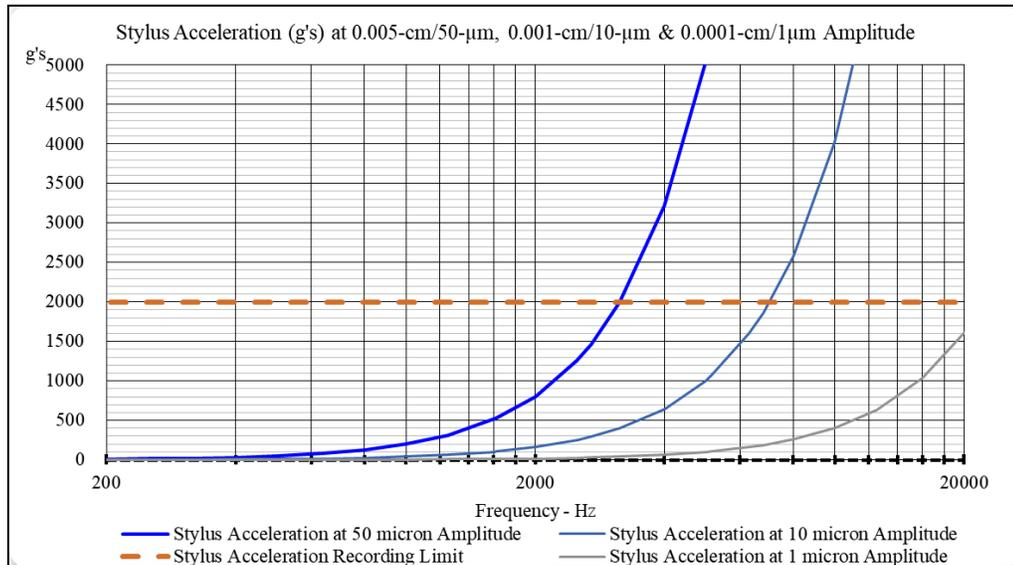
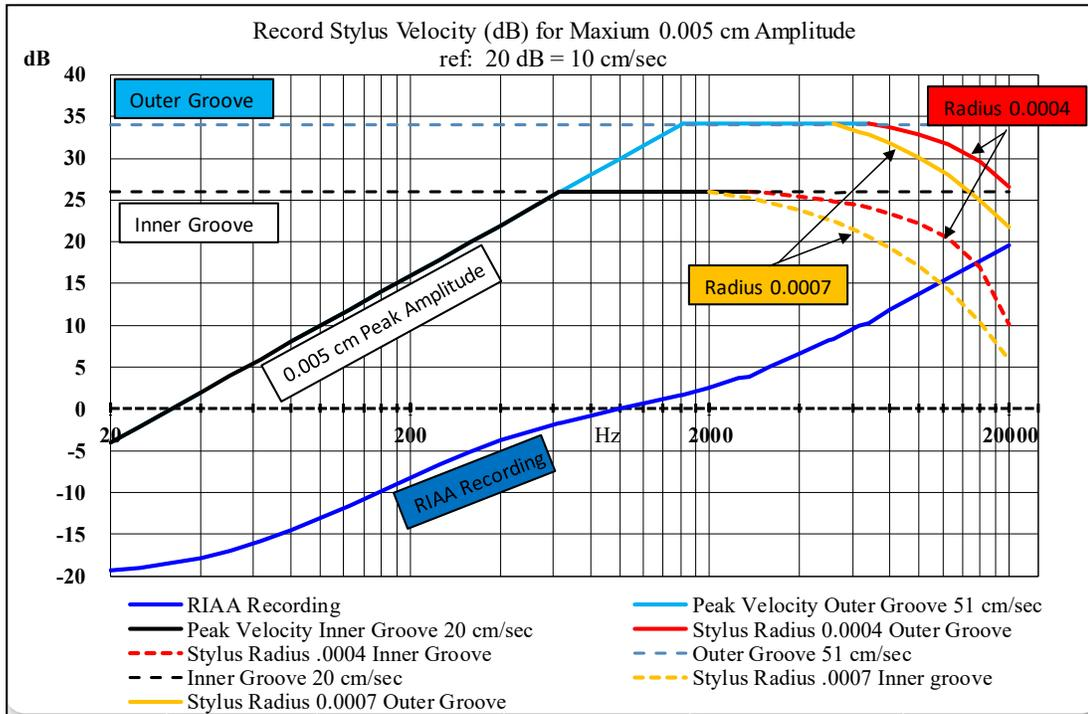

Figure 43 – Stylus Acceleration
Figure 44 – Record Groove Velocity
XI.4.3 There are three limiting factors when recording records, the stylus velocity, stylus acceleration and stylus radius. The amplitude equation above is usable for frequencies greater than 1000 Hz since at lower frequencies the amplitudes would be unreasonably large and because of this, the *Recording Industry Association of America*® (RIAA) recording curve attenuates the lower frequencies. Acceleration becomes limiting as the frequency increases as shown **Figure 43** and to correct recording engineers will often adjust the recording signal to limit acceleration to about 2000-g's (depending on the cutting head limitations) along with the RIAA® recording curve that amplifies high frequencies.
XI.4.4 **Figure 44** shows the RIAA™ recording curve, the peak groove-stylus velocity at a maximum recording amplitude of 0.005 cm/50 microns at the inner and outer grooves (per the equations in **paragraph XI.4.2**) and examples of the effect of stylus tip radius limiting the groove velocity. A radius of 0.0004 cm/4- μ m would be similar to a Shibata type stylus shape while the 0.0007 cm/7- μ m radius would be similar to an elliptical type stylus.
XI.4.5 Graphs presenting groove velocity, amplitude and stylus radii can also be found in *STEREOPHILE Chart File No. 8 Record Groove Parameters*, J. Gordon Holt, *The Stereophile Magazine Vol.1 No. 8, August 1964 (39)* and “*Disc cutting in theory*, Hugh Finimore, *Studio Sound and Broadcast Engineering, July 1975” (36)*. The following is provided to better understand **Figure 44**.
- XI.4.5.b Groove modulations produce sine-waves and these have curves with a radius defined by the square of the linear (tangential) velocity divided by the stylus acceleration (**paragraph XI.4.2**) The (tip) radius of the stylus is tracing these curves. At higher frequencies, the radius of the sine-wave curve decrease. If the radius of the sine-wave curves becomes less than the stylus tip radius, the stylus will be unable to trace the modulations and “...*the stylus loses its ability to follow the modulations accurately and tends to “gloss over them (39)”* leading to loss of signal output and distortion. A conical stylus that can have a tip radius of 0.0018-cm (not shown **Figure 44**) has difficulty in tracking high frequency peak velocities and amplitudes.
- XI.4.6 Why are we concerned with these groove and stylus details? While the recording industry is often focused on the maximum peak velocity that can be recorded, from a precision clean perspective the opposite is of interest; and understanding the very small modulations and large accelerations involved provides insight to how small amounts of contamination can have an impact. The higher frequencies appear to be the most sensitive. Reviewing **Figure 43**, in order to limit stylus acceleration, the amplitude at the higher frequencies may be very small on the order of 1 micron with values as small as 0.1 micron reported (*An LP Primer, Robert Harley The Absolute Sound June/July 2007 (69)*). Reviewing **Figure 44**, technically, the area under the peak velocity lines can have recorded music, but the lowest groove velocities may only be used for records with a large dynamic range. Shure™ did a survey of the groove velocity of records that was reported in the paper *Design Considerations of the VI5 Type IV Phonograph Cartridge, L. R. Happ (44) delivered at a 1978 technical seminar on phonograph cartridges*. The majority of records were recorded at 6 dB (2 cm/sec) and greater.